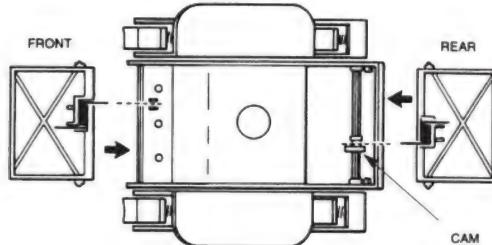

Figure 12
- You will notice that your replacement flaps look similar but are marked "Front" and "Rear" on the flap. **Because the springs in the flaps are different, it is absolutely necessary to install the proper flap in the front and rear of the unit.** Failure to do so will result in unsatisfactory performance of the Navigator. When installing the front flap, be sure that the extended leg of the spring is inserted into the notch on the front of the lower body (*see Figure 12*). Push the flap in place. You will actually feel and hear a snap when the flap is in place. Fold the flap in towards the bottom of the Navigator. You will feel some resistance at this point (that is normal). As the flap snaps into its normal position, you will feel the spring action and notice that the front flap is now in its normal operating position.
When installing the rear flap, the extended leg of the spring must fit against one of the flat surfaces of the cam (*see Figure 12*).